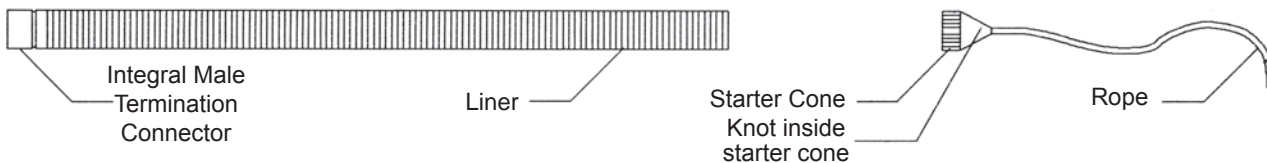
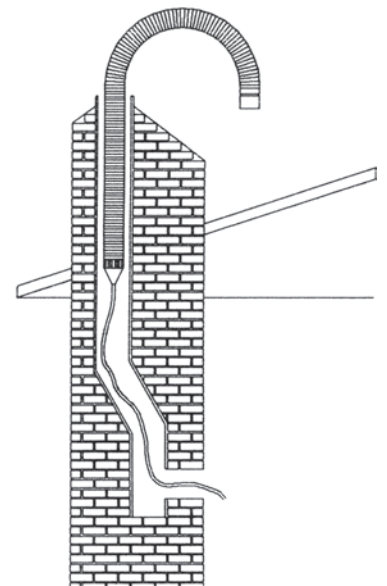

FIG. 1
FIG. 2
- Step 6. Use a rope that is at least 12" (30.48 cm) longer than the overall length of the liner and feed one end thru the hole in the pointed end of the starter cone. Pull enough of the rope into the cone to be able to tie a knot that will not slip back thru. Then attach the starter cone to end of the liner (see FIG. 1) using either self tapping sheet metal screws or wrap the seam with duct tape.
- Step 7. Now that the "FLEXJET" liner has been stretched to length and the starter cone has been attached it is ready to be installed, usually by two (2) people, one person should be stationed on the roof at the chimney and the other at the bottom of the chimney, at the outlet end.
- Step 8. With one person on the roof, drop the rope down the chimney, feed and guide the liner down the chimney while the other at the bottom outlet pulls the rope slowly and evenly through the passageway (see FIG. 2). Stop when the bottom of the male termination/connector fitting is even with the top of the clay tile or where the flashing will be installed.